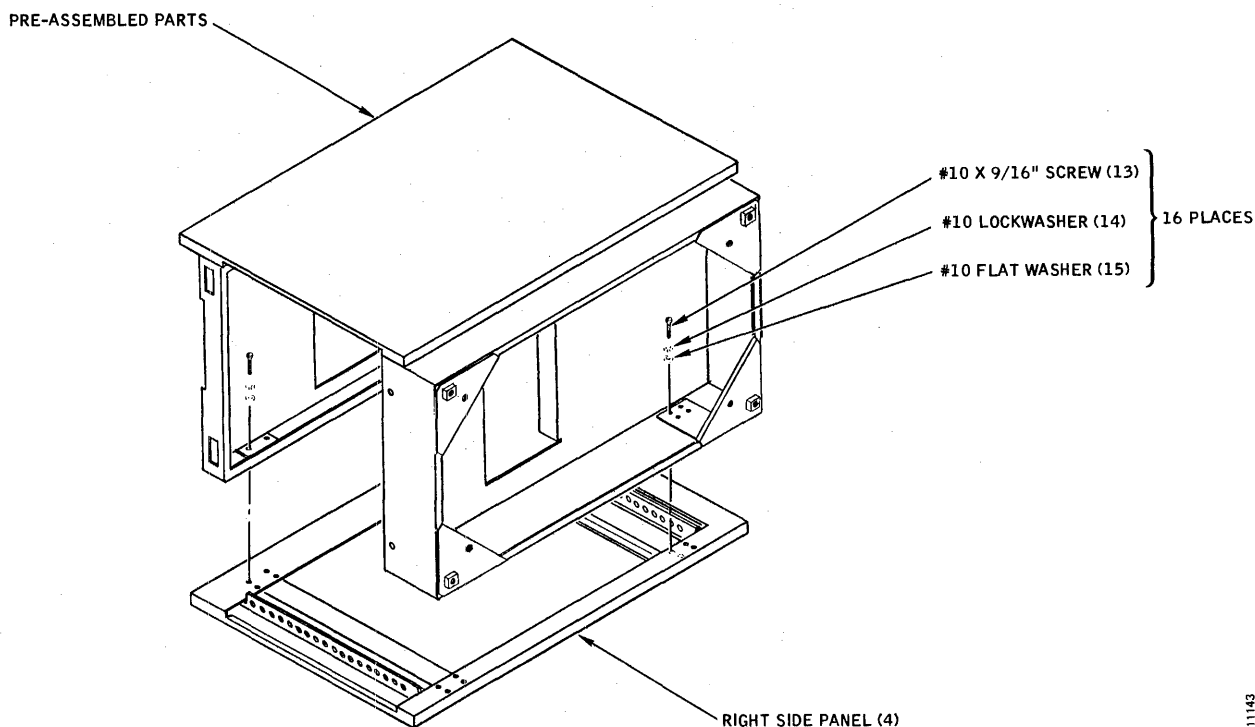

Figure A-3. Stand Assembly, Steps 5 and 6
5. Turn the assembled parts over so that the Left Side Panel is facing up, and set it aside. Place the Right Side Panel (4) flat on its finished surface, and set the assembly down over it, as shown in Figure A-3. Use sixteen #10 x 9/16" pan head screws, split lockwashers (13, 14, 15) to assemble the Right Side Panel to the assembly, top and bottom.